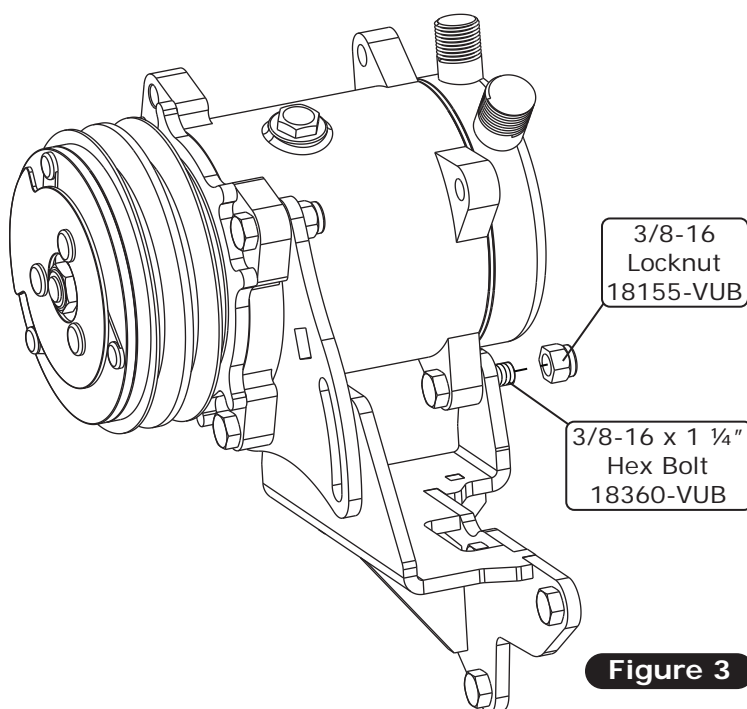

Figure 3
4. Secure the back side of the compressor using a 3/8-16 x 1 1/4" hex bolt and 3/8-16 locknut as shown in Figure 3, below. **NOTE: Do not tighten at this time.**